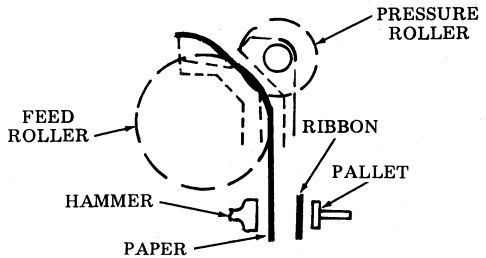

Fig. 53—Friction Feed Printer Without Noise-Reduction Parts
9.05 Rotate paper until leading edge appears under pressure roller shaft. Be sure paper is not between type pallets and ribbon (Fig. 53).